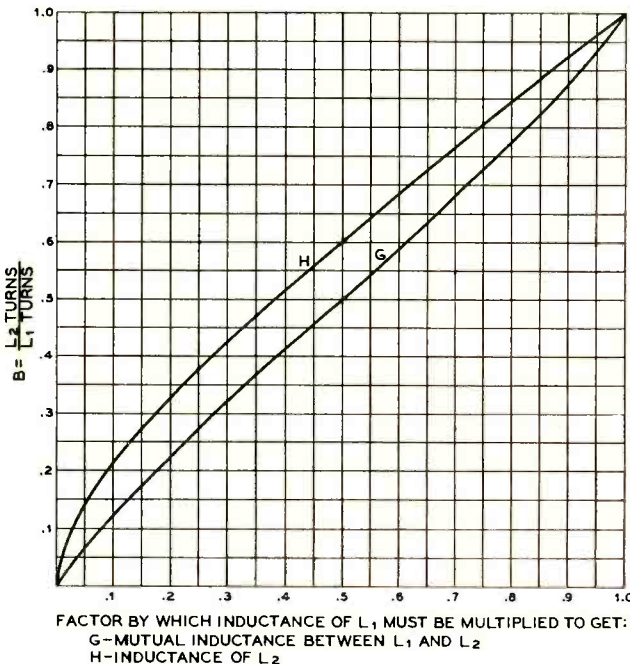

Figure 4.
which was previously shown to be correct. For any given tap point the mutual reactance, ωM, may be replaced by the product of a constant, G, and ωL₁. The constant may be taken from figure 4 and represents the relationship between the mutual inductance and the inductance of L₁ for the tap point chosen. The reactance of the tapped portion of the coil, ωL₂, may likewise be replaced by a constant, H, and ωL₁ for the same tap point. Constant H represents the relationship between the inductances of L₁ and L₂ for a given tap location and is also given in figure 4. Replacing ωM and ωL₂ by their equivalents in terms of ωL₁ and the constants gives:
- G=constant from figure 4 for any given tap point,
- H=constant from figure 4 for the same tap point, and